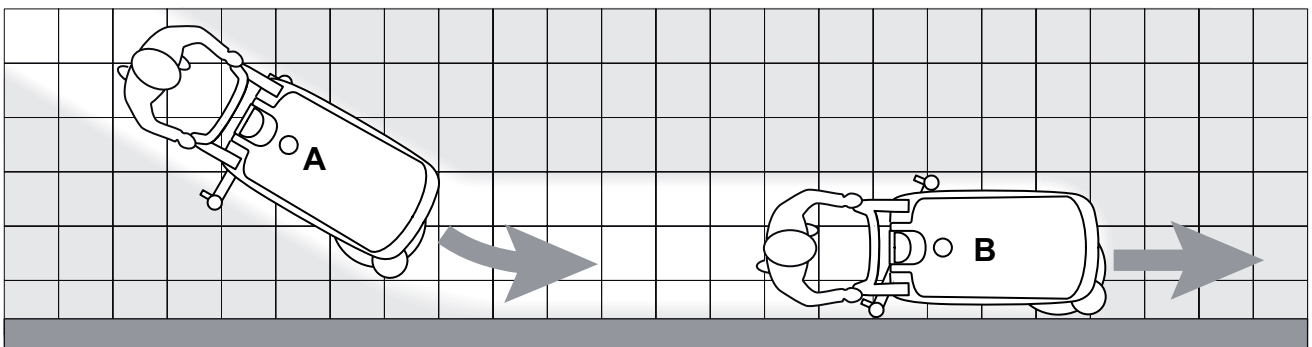

Figure 2
2. While keeping both hands on the handlebar (2), move the machine and start scrubbing/drying the floor.
3. If necessary, adjust the solution quantity by using the push-button (54).
*To avoid damaging the floor surface, do not use the brush without the solution and, when the machine is not operating, stop the brush/pad-holder by releasing the push-buttons (51).*
*Before lifting the brush/pad, turn it off by releasing the push-buttons (51).*
*For correct scrubbing/drying of floors at the sides of the walls, Nilfisk suggests to go near the walls with the right side of the machine as shown in figure 2.*